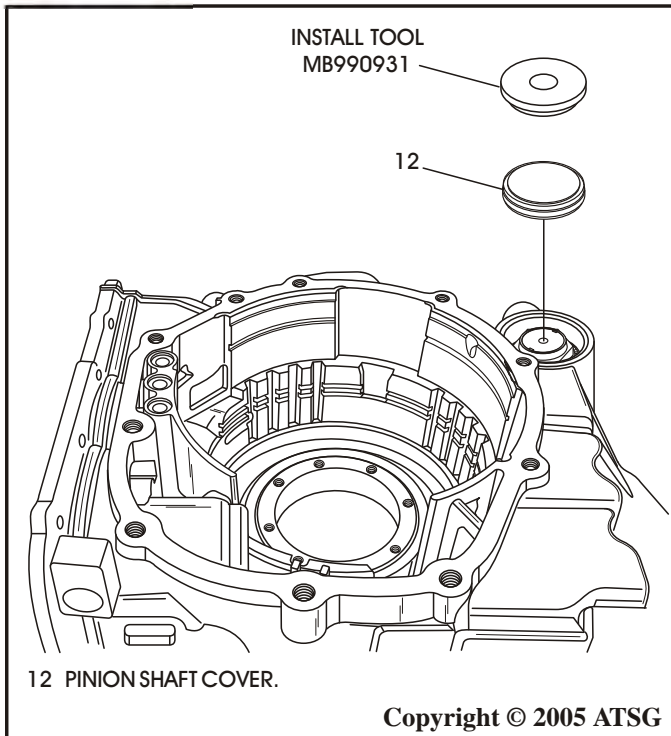

Figure 158
15. Install a new pinion shaft cover/seal into case, as shown in Figure 158, using proper driver.